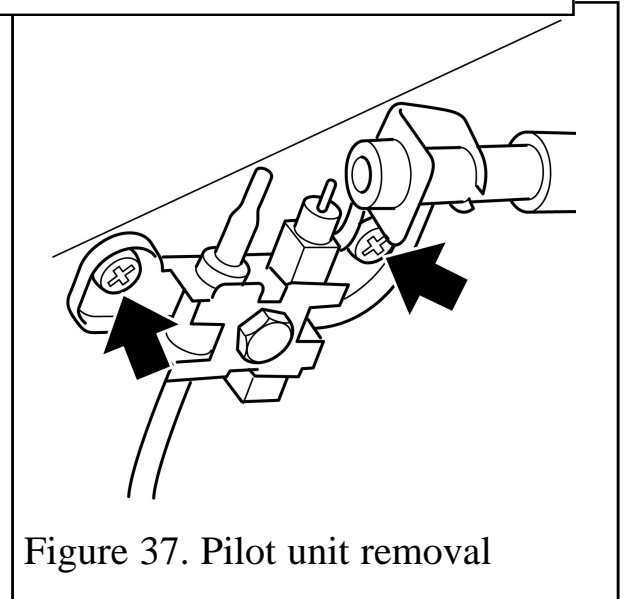

Figure 37. Pilot unit removal
6. Remove the two screws securing the pilot unit (See figure 37).